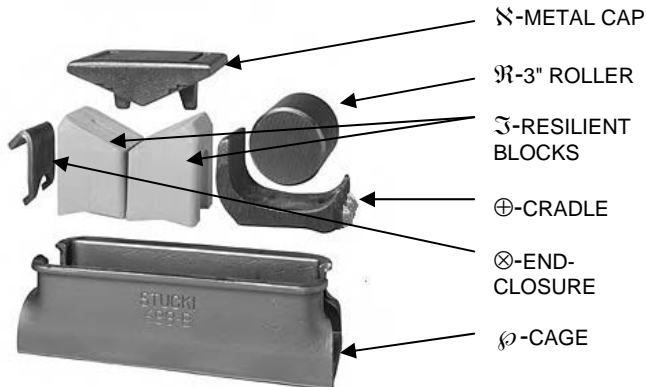

Figure 1. Stucki Dual Action Metal-Capped ISB Components
5. Installation of Components Into Cage (see Figure 1)